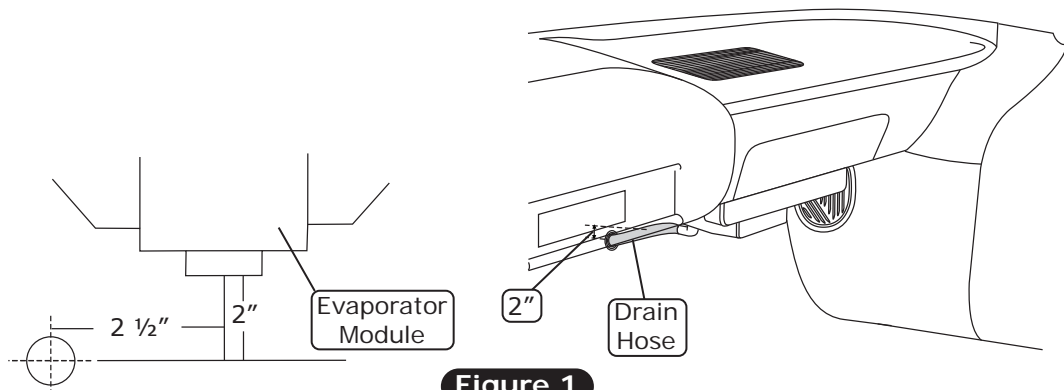

Figure 1
3. Install the drain hose onto the outlet on the bottom of the evaporator module, then route it through the firewall (See Figure 1, below).